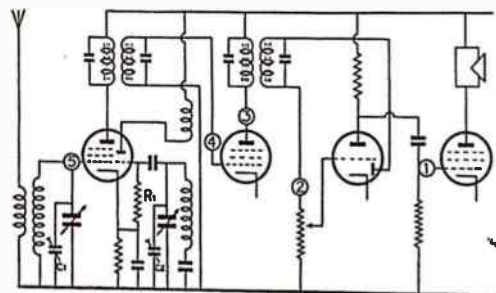
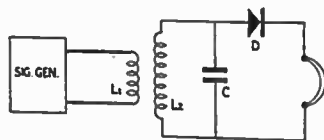
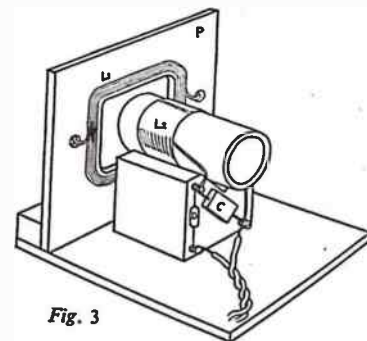

Fig. 1
Fig. 2
Fig. 3
there will appear to be one on all four sides (Fig. 1). With a piece of glasspaper wrapped round a block of wood, smooth all sides, making sure that they are nice and flat and square.
Fig. 1 shows the complete puzzle in which it appears that there is a perfect dovetail on each of the four sides. The solution is clearly indicated in Fig. 2, with the top part slid back slightly, which reveals the dovetails going in a diagonal direction or from corner to corner.
In order to produce a puzzle of this size you will need a piece of wood 4 ins. long and 2 ins. square. Make sure that it is perfectly square and take great care to mark it out exactly as shown in Fig. 3. The shaded parts indicate the wood to be cut away after the block has been sawn in half on the line marked 'cut here'. All the measurements are given in Figs. 4 and 5.
The resistor mentioned is R1 in Fig. 1.
The signal generator can also be used as an instrument for measuring inductances and condensers. In both instances the apparatus set-up is as shown in the circuit drawing (Fig. 2). A practical arrangement is illustrated in Fig. 3.
To return now to the practical arrangement seen in Fig. 3. This can easily be assembled from spare pieces of wood. The actual dimensions will be to suit individual requirements in relation to the size and type of coils most frequently used.
We have shown a rack for two bicycles in our illustration; but this can, of course, be increased as desired. In any event the racks will be made up separately as shown in Fig. 3, and then attached to the base and strengthened by stays at the back.
Add the second rail (C) and then the block (D) as shown in Fig. 3. The size of the latter is not critical; it can be cut from an odd piece of wood, the sides measuring about 3 ins. Nail in from behind piece (B) and from under piece (A).